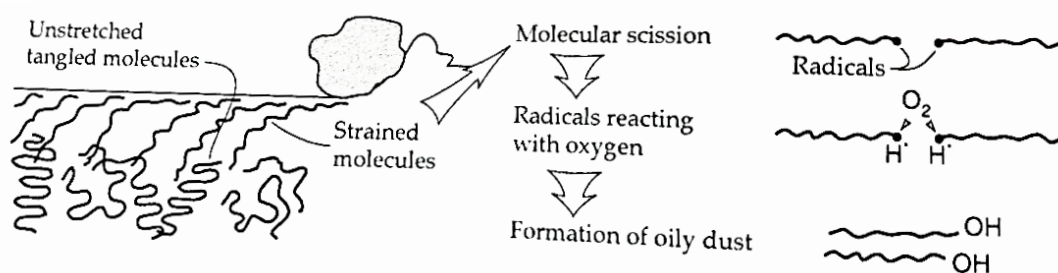

Figure 5 (b)
- (b) With the help of diagram in Figure 5 (b), explain the impact of the rubber wear mechanisms work.